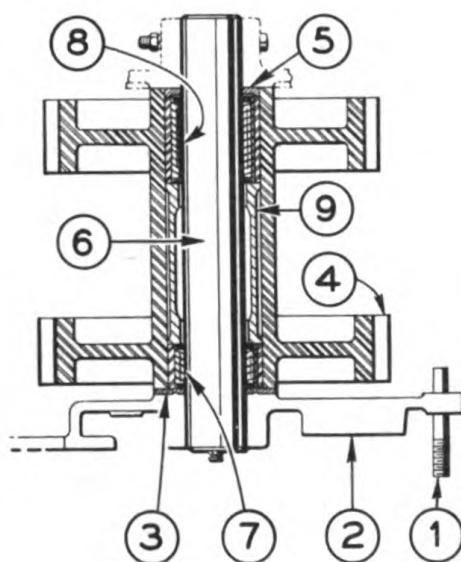

Figure 120
Remove dowel pin (1) Figure 120. (For method of removal see Figure 140). Take cap screws out and remove lower gear case cover (2). Thrust washer (3) will now come off. Remove bar and let the two speed gear (4), down - do not drop it. Remove seal ring (5). To remove the shaft (6), take bolt out of the end of the shaft. NOTE - Thrust washer (3) can be replaced by raising shaft (6) up and working through inspection opening and drain hole. To keep the gears in place while doing this, use small wedges under the lower gear. Be sure to remove the wedges after new washer has been installed and shaft pushed back into place.
Remove bearings (7), (8) and spacer (9), Figure 120.